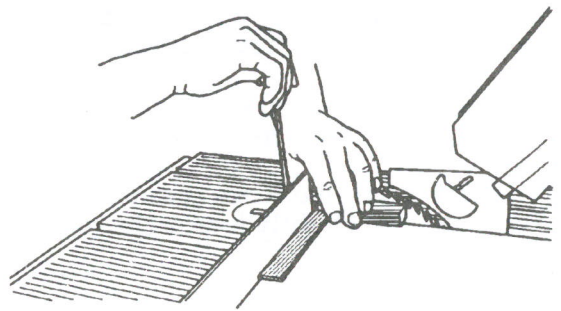

Fig. 5
12. When the fence is perpendicular to the saw blade, use a 5/32" Allen wrench to securely tighten the closest screw to the square, then do the same for the remaining two screws. See Fig. 5. Re-check for squareness and repeat this step, if needed.